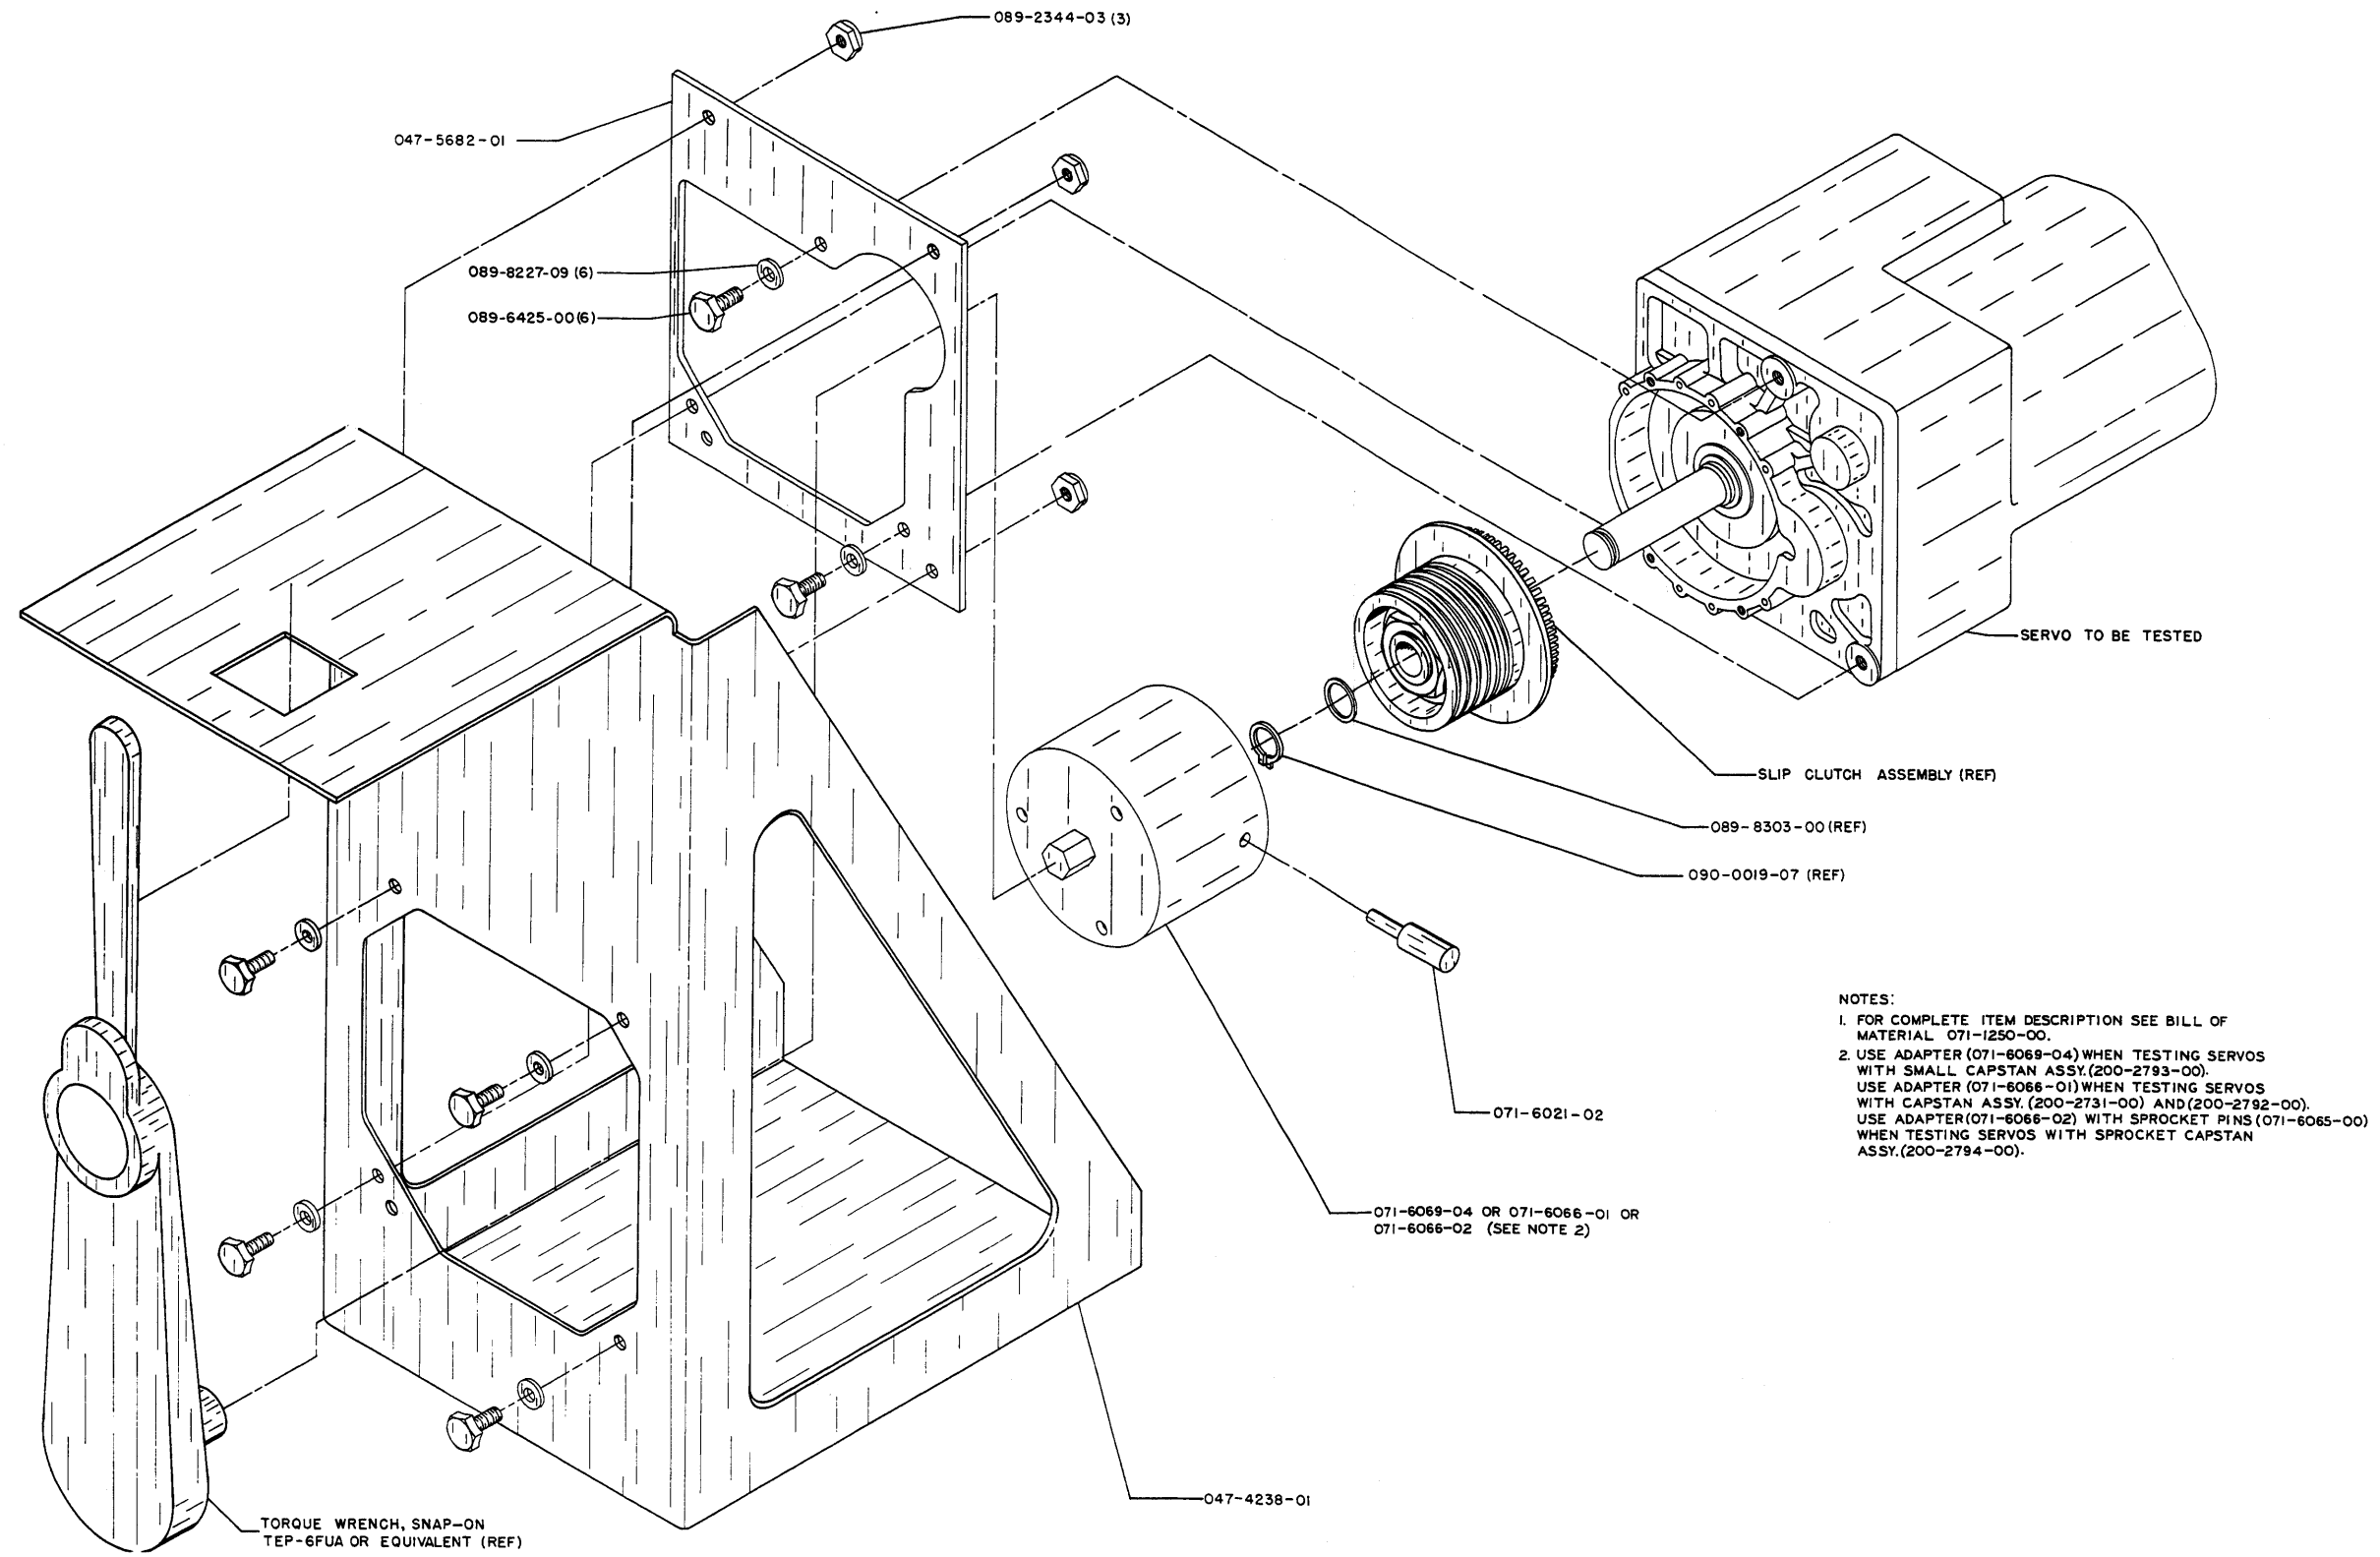

FIGURE 5-2 KS 178 PRIMARY SERVO TEST KIT ASSEMBLY
- a. Install the KS 178 in the torque fixture (Figure 5-2).